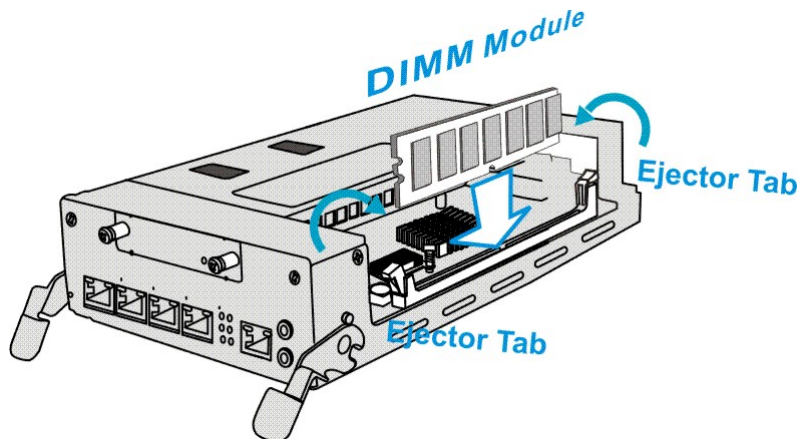

Figure 5-4: Removing a DIMM Module
Step 4. **Remove the previously installed DIMM module from the DIMM socket.** To do this, push the white module clips on either side of the DIMM socket down. By doing this, the previously installed modules will be ejected from the DIMM socket. (See Figure 5-4)